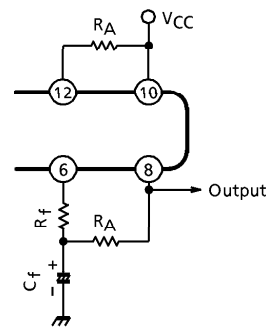

Fig.3
1) In case of the battery use ($V_{CC} \leq 6V$), this IC is happen to oscillate (blocking oscillation) when the impedance of power supply is high. In this case, it is recommended to insert the resistance R_A of $500\Omega \sim 1k\Omega$ between ⑩pin and ⑫pin (V_{CC} - Filter II). By this method, this IC becomes very stable. But the output DC voltage is not center by the influence of R_A . Then the output wave shape is not symmetrical clipping wave and the maximum output voltage is reduced. So we recommend to insert the other resistance R_B between ⑥pin and ⑧pin for compensating the output DC voltage.
2) When you use this IC at the supply voltage of more than 6V, it is better to insert the resistance R_B for compensating output DC voltage. (Fig.3)